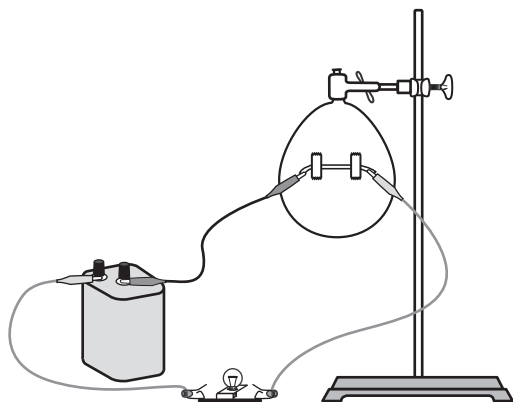

Figure 2.
5. Using three connector cords with alligator clips, connect a 6-V lantern battery, the lightbulb, and the aluminum strip in series (see Figure 2). Be sure the metal of the alligator clips is not touching any part of the balloon.